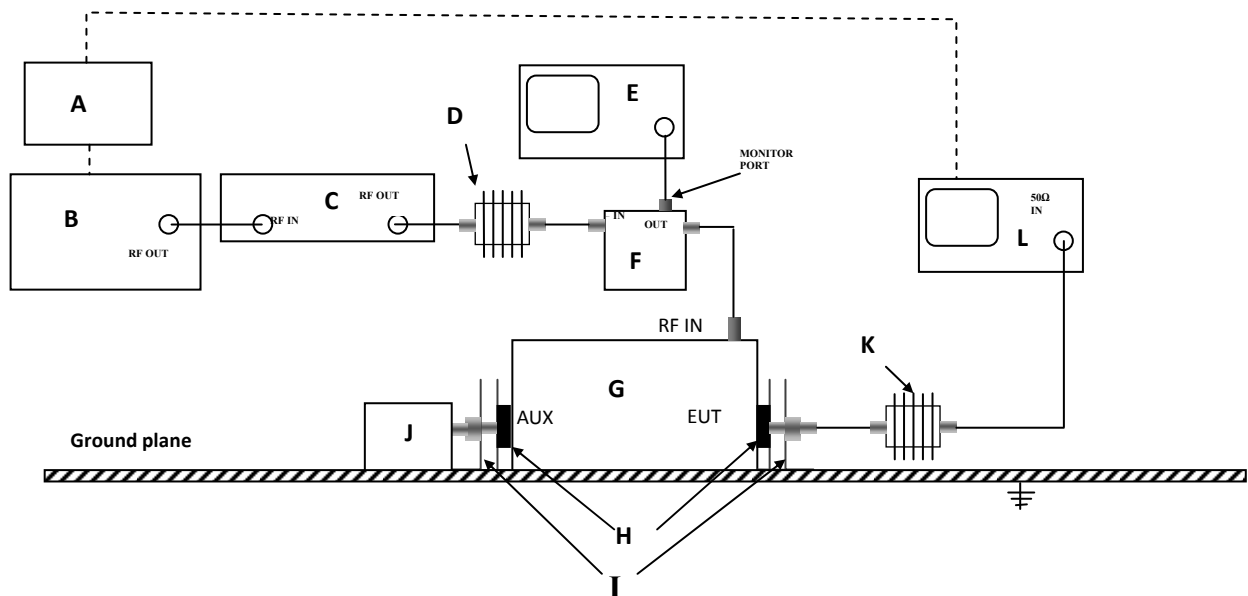

Figure 1: Typical Test level calibration setup
Before you begin testing with the CDN you will need to establish a calibrated drive levels corresponding to your desired test levels. During drive level calibration the RF signal level being injected to the CDN is adjusted incrementally until the voltage level measured at the 150Ω to 50Ω adapter connected to the EUT port is approximately equal to the U_{mr} (150) value given in table 1, and the signal generator output, or forward power delivered to the CDN is recorded. This process is then repeated at each frequency starting at 150 kHz with step sizes no greater than 1% of the preceding frequency value up to 80 or 230 MHz. This equates to 633 discrete test frequency points up to 80 MHz and 739 points up to 230 MHz. Record the signal generator output at each frequency. Typical test level calibration setup is shown in figure 1 below.